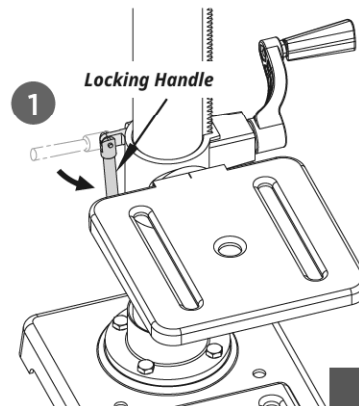

Figure 14
1. Release the locking handle. (See Figure 14 illustration 1)